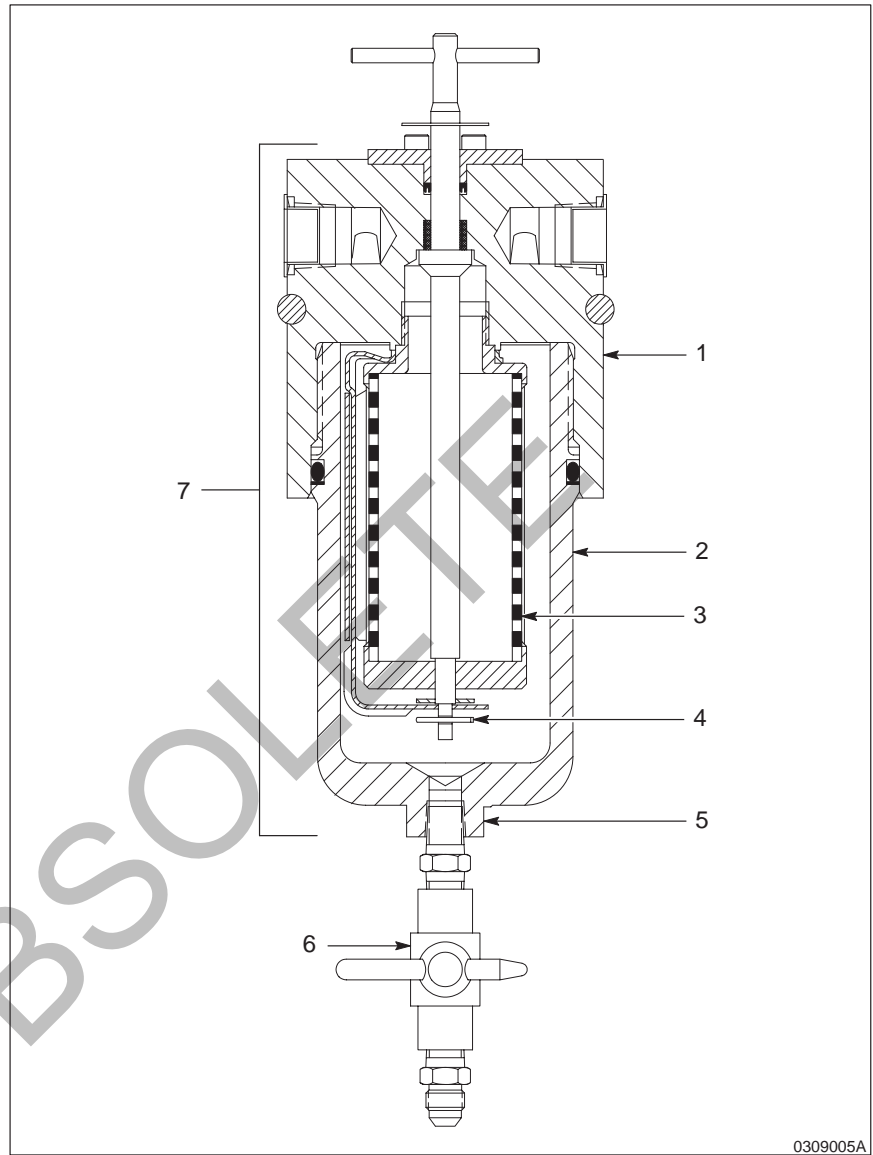

Fig. 5 Removing the filter element from the EasyClean filter assembly
4. See Figure 5. Relieve the pressure in the filter housing (7) by slowly opening the filter bowl valve (6).
5. Using a 1-inch wrench, grasp the flats (5) on the bottom of the filter bowl (2). Carefully turn the filter bowl counterclockwise to remove it from the filter head (1).
6. Follow these steps to remove the filter element (3):
- a. Remove the cotter pin (4) at the bottom of the filter element.
- b. Rotate the filter element by hand in a clockwise direction to remove it from the filter head (1).
7. Thoroughly clean any exposed areas of the filter housing (7) with solvent and a soft, clean cloth.
8. Inspect and clean the filter screen on the filter element (3). If the filter screen shows signs of wear, replace the filter element.
9. Reinstall the filter element (3) to hand-tightness only. Keep in mind the left hand threads.
10. Clean the filter bowl (2) compatible solvent and clean, lint-free wipes.
11. Reinstall the filter bowl (2) on the filter head (1).